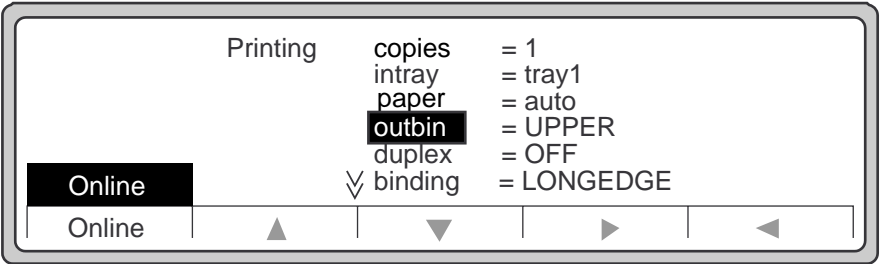

Figure 4-33 Printing Submenu
3. Select **Printing** to display the Printing submenu, as shown in Figure 4-33.